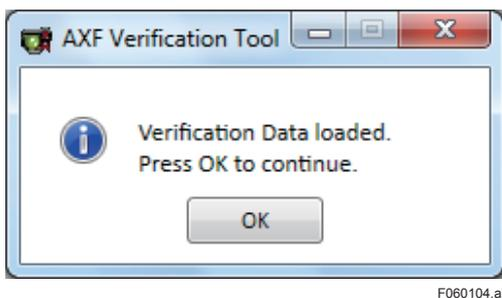

Figure 6.1.4 "Verification Data Loaded" Dialog
- 4) After loading, **Figure 6.1.4** is displayed automatically. Click "OK".